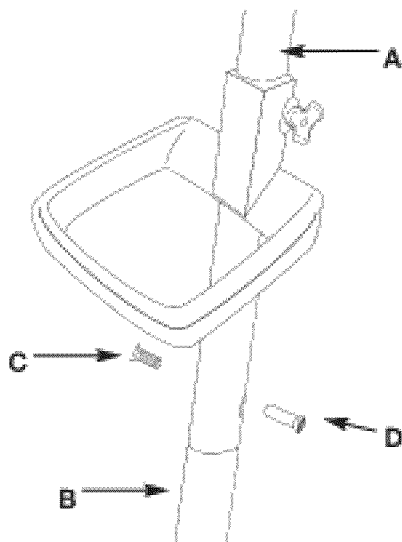

Figure 3
3. After sliding lower tube (B) inside the upper tube (A), line up the screw holes on each tube. (Figure 3)